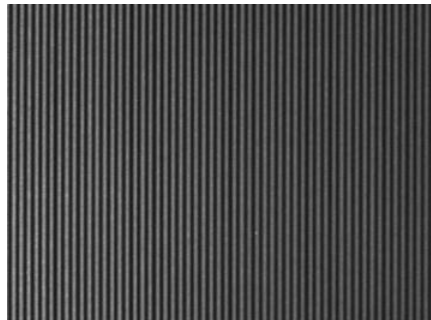
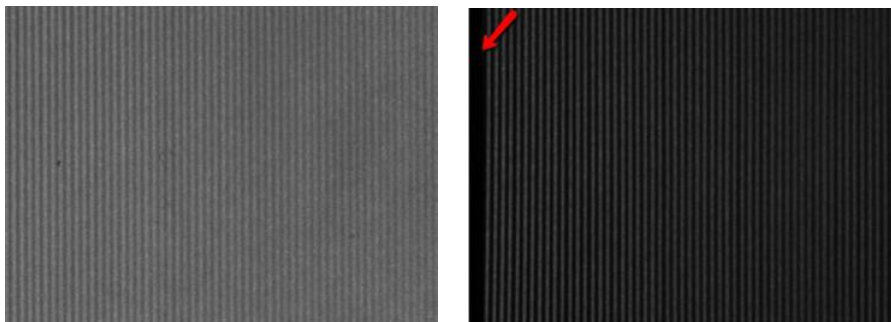
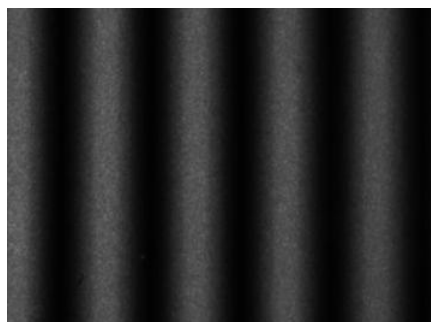
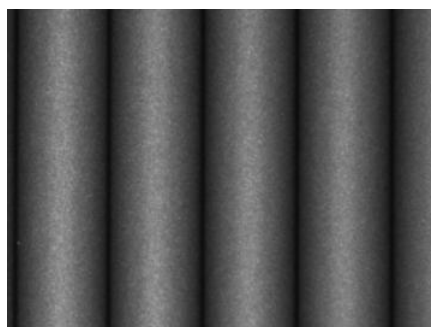

Figure 24 Good Images
Figure 25 Bad Images
Figure 26 Good Images
Figure 27 Bad Images
19. Refer to the Figure 24 and Figure 26 for the sample of the good adjustment images and Figure 25 and Figure 27 for the sample of bad adjustment images.
26. Insert the jig once the left outer barrier open as shown in the Figure 26.